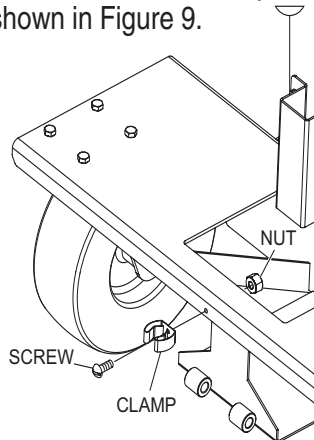
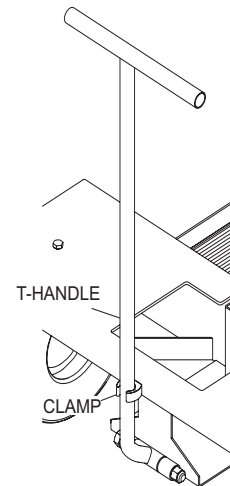

Figure 8. Clamp Installation
Figure 9. Clamped T-Handle
3. Install the clamp as shown in Figure 8 and tighten with bolt. Push handle towards clamp to secure handle in place as shown in Figure 9.